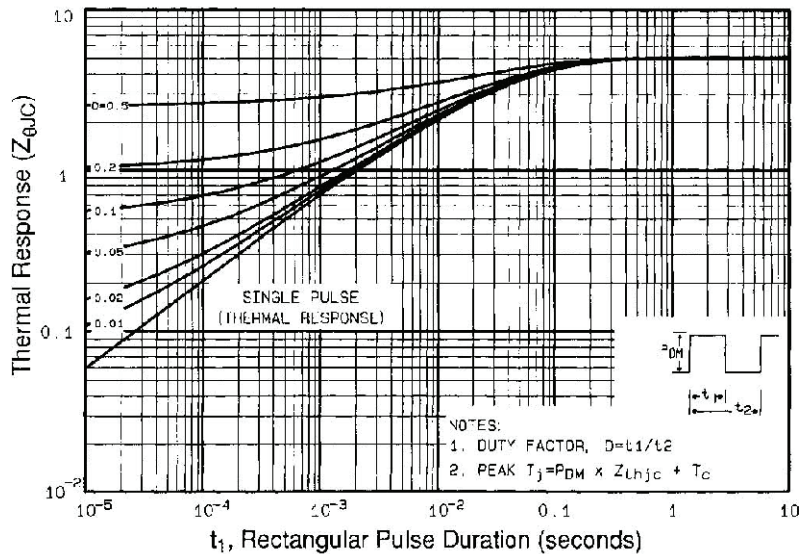

Fig. 12 - Maximum Effective Transient Thermal Impedance, Junction-to-Case
- $V_{DD} = 25\text{ V}$, starting $T_J = 25\text{ }^\circ\text{C}$, $L = 924\text{ }\mu\text{H}$, $R_g = 25\text{ }\Omega$, $I_{AS} = 7.7\text{ A}$ (see fig. 12)